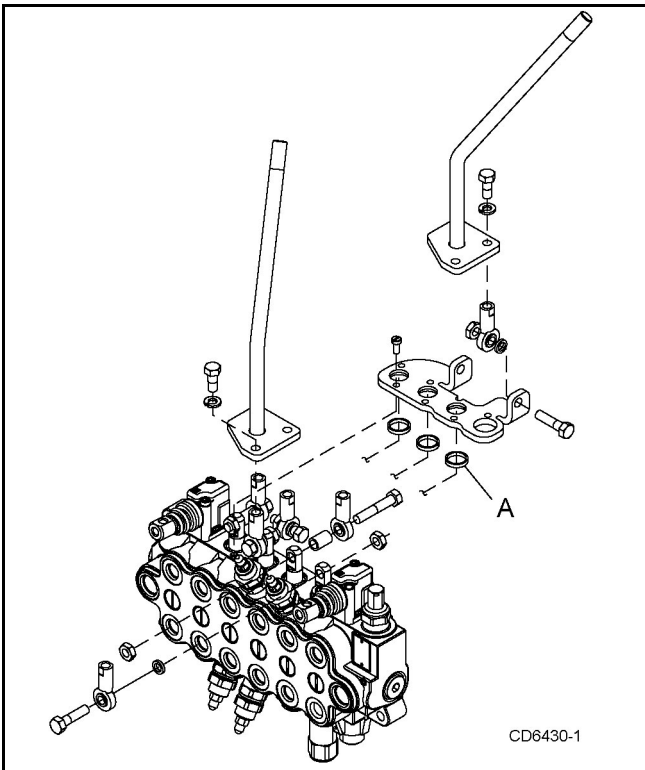

Figure 18. Control Lever Adjustment
Position spool wipers (A) (Figure 18) on swing, dipper, and bucket spools in linkage plate. Reinstall control linkage. Note the screws installed in the boom and dipper spools should be tightened until snug, then backed off approximately $\frac{1}{2}$ turn to allow free movement of the joystick.